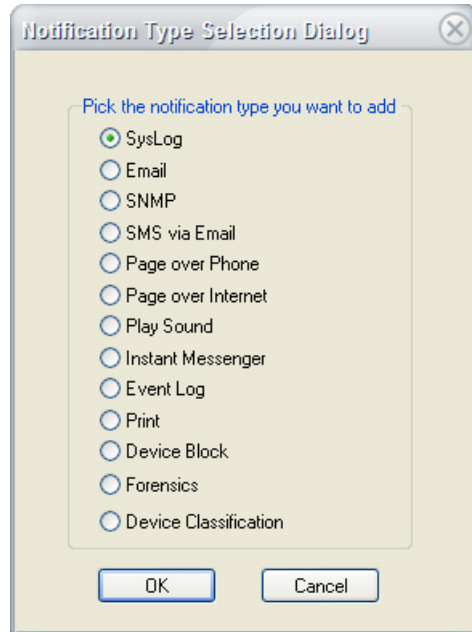

Figure 13-6: Notification Type Selection dialog box
- 2) Click **+** (Add New Notification). The Notification Type Selection Dialog appears. See Figure 13-6.
- 1) From the AirMagnet Policy Notification List (Figure 13-6), check the SysLog radio button. The SysLog Notification Dialog box appears. See Figure 13-7.